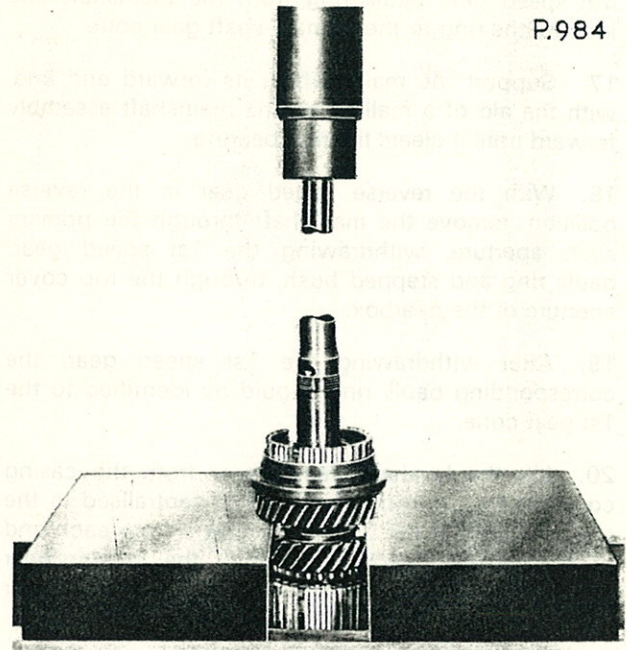

Fig. E.12. Pressing the 1st and 2nd synchro hub off the mainshaft
- (a) Press the 1st and 2nd speed synchro hub assembly and the 2nd speed gear off the mainshaft as shown in Fig. E.12. Separate the baulk ring from the gear and suitably identify the baulk ring to the gear cone.